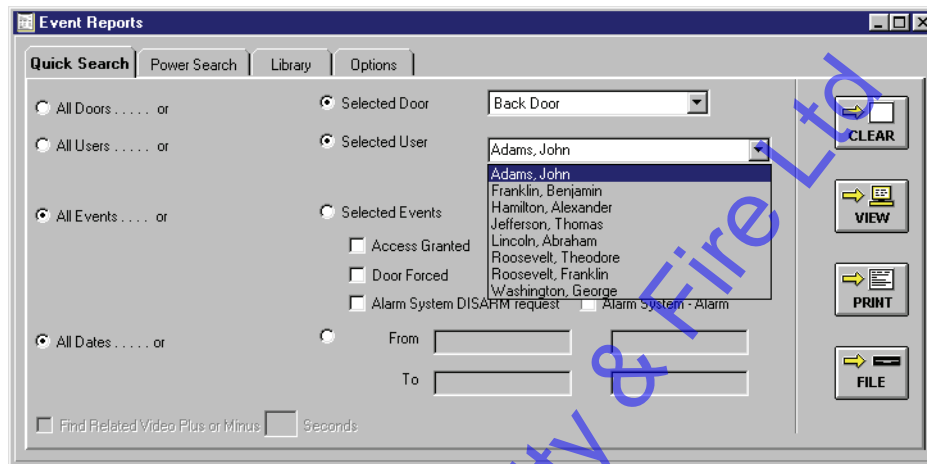

Figure 7-14: Available Users List
2. To select one user, click on the **Selected User** radio button. A list of all available users appears in the window (see Figure 7-14).